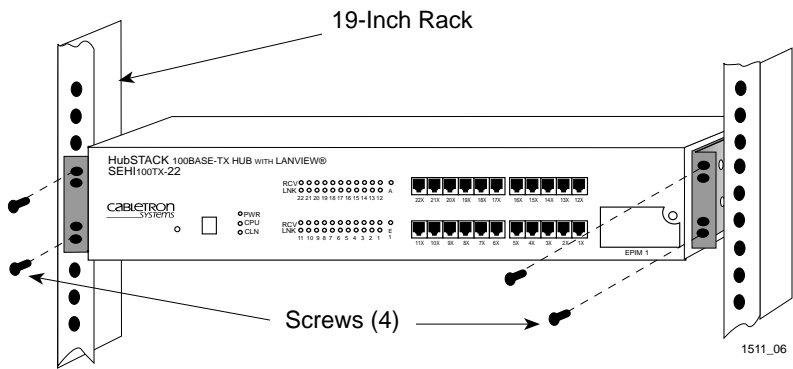

Figure 4-5 Installing the SEHI in the Rack
3. Ensure that the rack used will support the unit, and that the rack will remain stable with the unit installed in it. Support the SEHI securely from underneath, and align the mounting brackets of the SEHI chassis with the screw holes in the equipment rack as shown in Figure 4-5. Fasten the SEHI to the equipment rack securely.